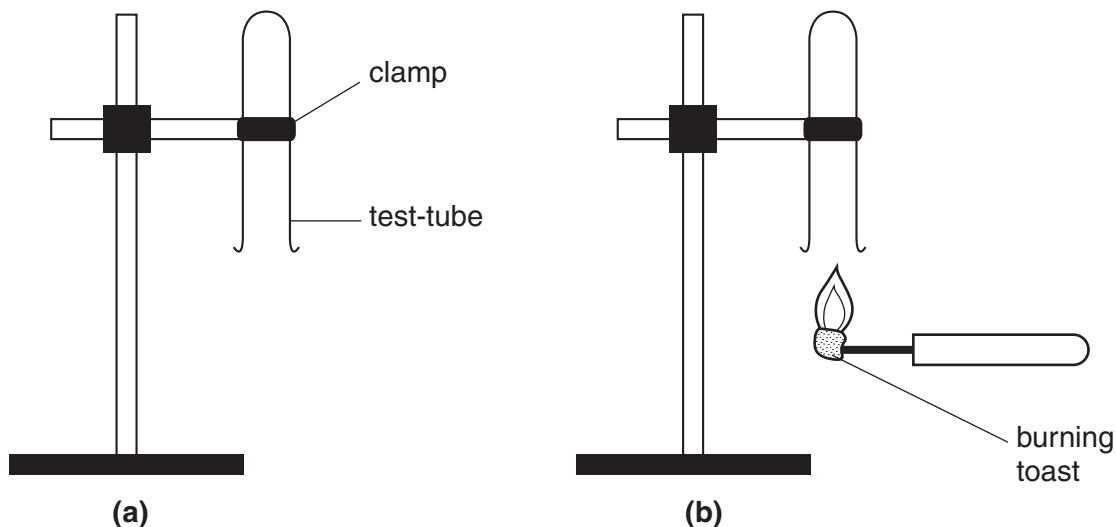

Fig. 1.1
- Set up the apparatus as shown in the diagram, Fig. 1.1(a).
- When it is burning strongly hold it about two centimetres beneath the test-tube, as shown in Fig. 1.1(b).